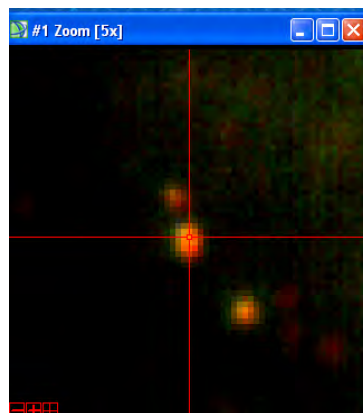

Figure 3. Crosshair centered over particle in Zoom Window
6. Using the Zoom Window, select a clear, distinct particle using the crosshair cursor (see Figure 3). We will use this particle to represent the GNR that are distributed throughout this image